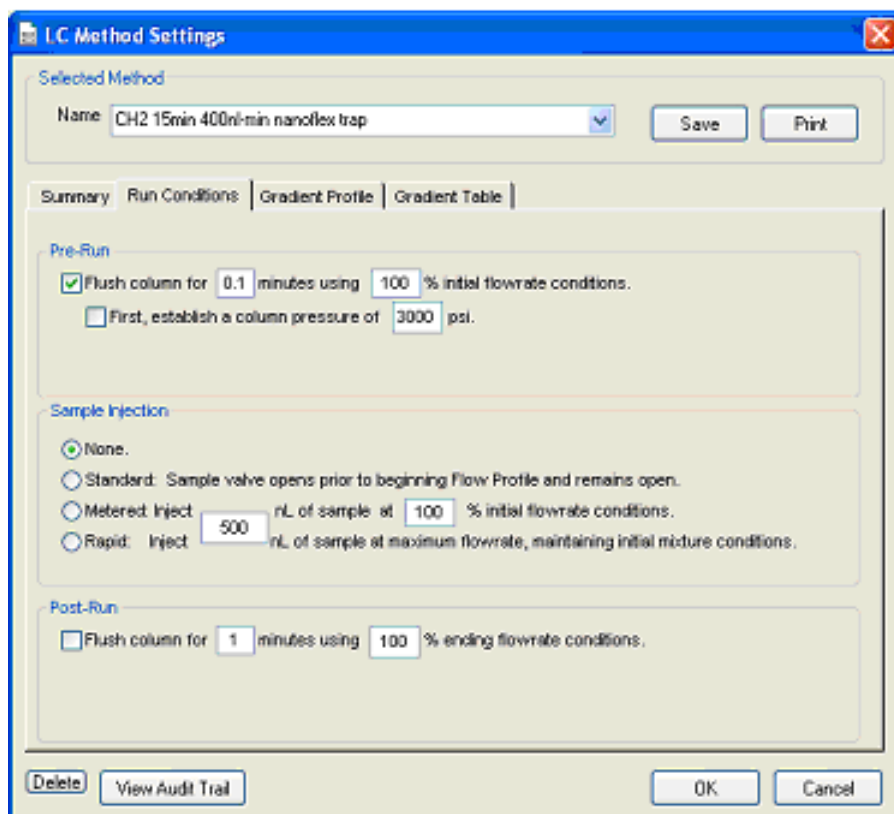

Figure 2-7 LC Method Settings dialog—Run Conditions tab (Nanoflex system)
5. On the **Run Conditions** tab, specify the method as shown in Figure 2-7.